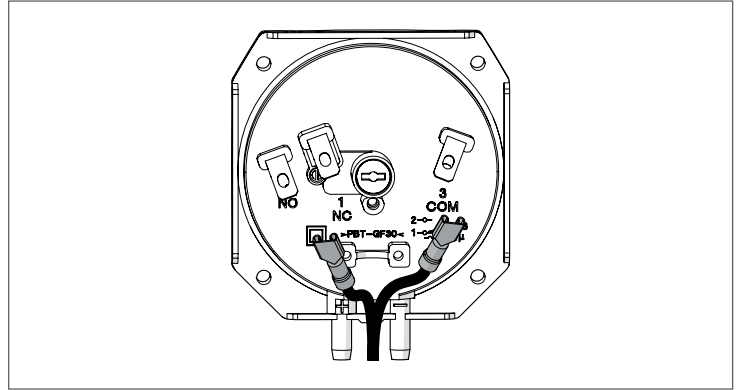
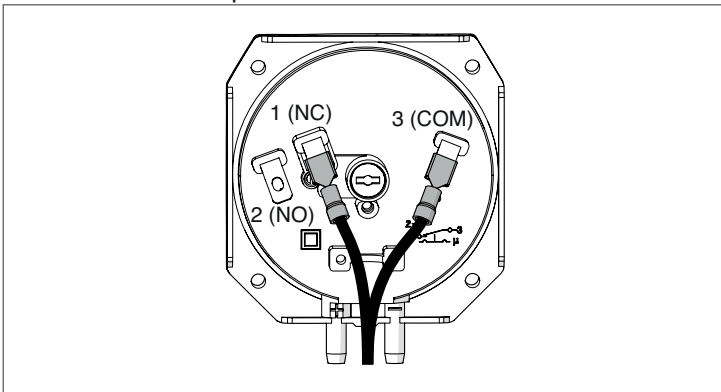

Fig. 69 Disconnect wires
Fig. 72 *Wired pressure switch*
- Test the pressure switch on the other side of the boiler (module 4 or 8); repeat the process from Fig. 69 through Fig. 72.
- Follow the steps from Fig. 69 through Fig. 72.